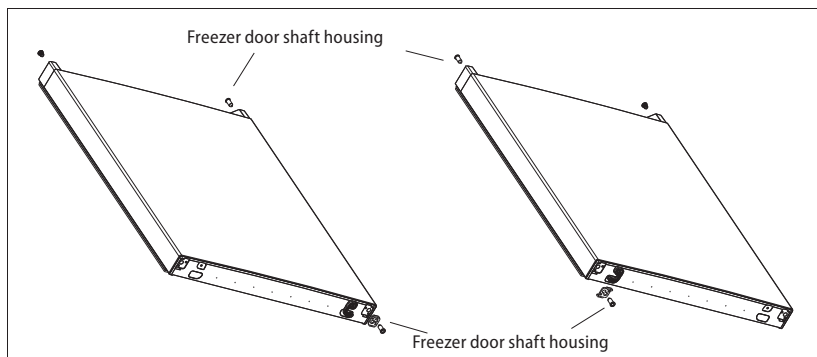

Fig. 5
10. Remove the shaft housing for fixing the middle hinge of the refrigerator from the door of the freezer and place it on the other side of the door (Fig. 5).
11. Remove the plastic stop, the metal holder, and the housing for fixing the bottom hinge of the freezer from the bottom edge of the freezer door as shown in Fig. 5.